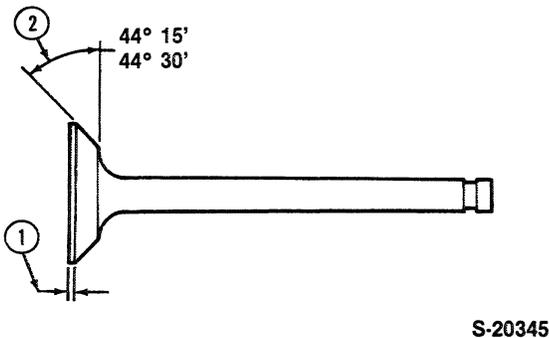

Figure 12
- Examine the valve face and, if pitted, replace or reface by grinding to the dimension shown in Figure 12. Before refacing the valve, be sure the valve stem is not bent or worn and check the valve seat run-out, measured at right-angles to the seat, does not exceed a total of 0.0015 in. (0.038 mm). Measure the valve head margin to assure sufficient margin remaining after refacing.